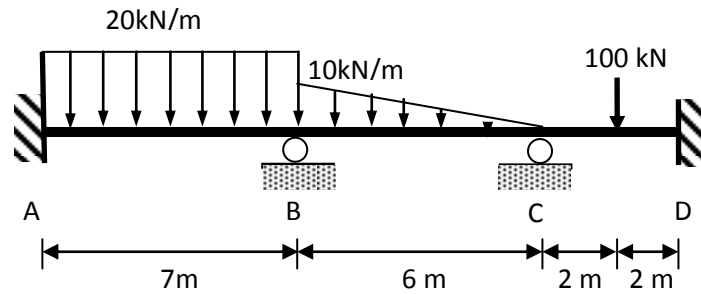

Figure 4
2. (a) Figure 4 shows a beam carrying a uniformly distributed load of 20 kN/m on span AB, a triangular load varies from 10 kN/m to 0 kN/m on span BC and a point load of 100kN at mid span CD. Support A and D are fixed and support B and C are on roller. The support at C is displaced (settlement) 30 mm. Given that $E = 200 \text{ GPa}$ and $I = 600 \times 10^6 \text{ mm}^4$. Using Moment Distribution Method, calculate internal moments at the supports of the beam. Then sketch the deflected shape and bending moment of the beam. Neglect axial deformation.